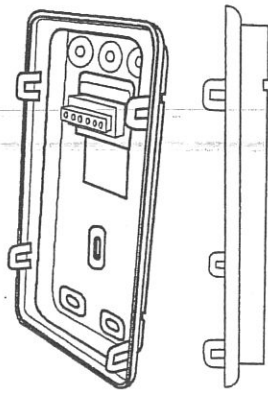
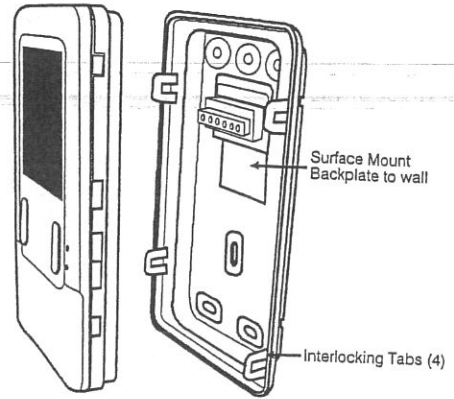

Fig. 4 - Surface Mount Backplate
Fig. 7 - Surface Mount Assembly
**SURFACE MOUNT** — This provides surface mounting configuration, which allows use of a small hole in the wall. A surface mount backplate is supplied (See Fig. 4). Attach backplate as shown in Fig. 7, and the assembly will mount directly to the wall requiring only a small hole in the wall allowing a four wire connection to pass through.